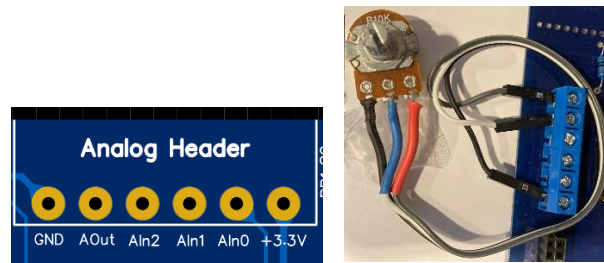

Figure 5. Aout pin.
3. Compile and program into the board. Connect variable resistor to Analog Header at location +3.3V, Ain0 and GND as shown in Figure 5.
2. Compile and program into the board. Use oscilloscope to measure the output at Aout shown in Figure 5 and plot graph and calculate the frequency of the output signal.